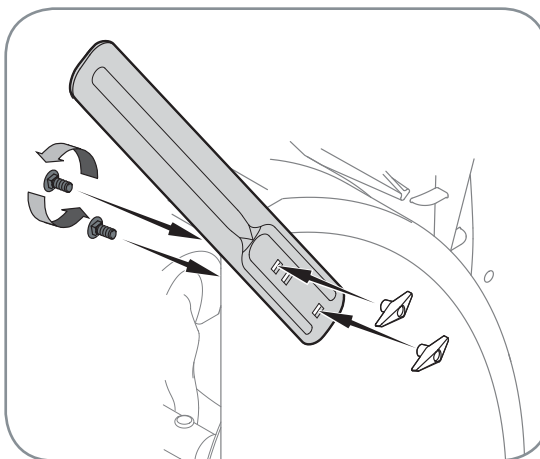

Figure 3-6
- Reposition drift cutters so they face forward as shown in Figure 3-6. Secure with hardware previously removed, wingnuts should be fastened on the **outside** of the housing as shown.